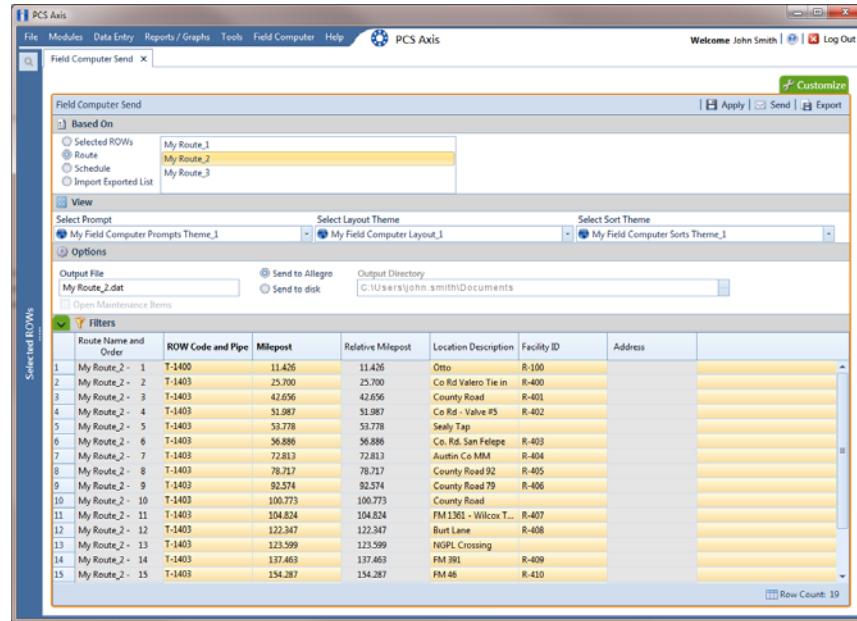

Figure 13-24. Field Computer Send Based on Route
- a Click the **Route** option and then select a route in the selection box (Figure 13-24, page 577).